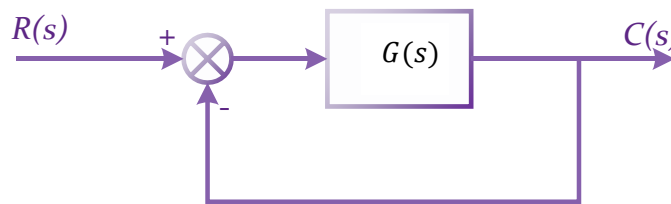

Figure 1.1
1.1 Sketch the root locus for the unity feedback system shown in Figure 1.1 for the following transfer functions.